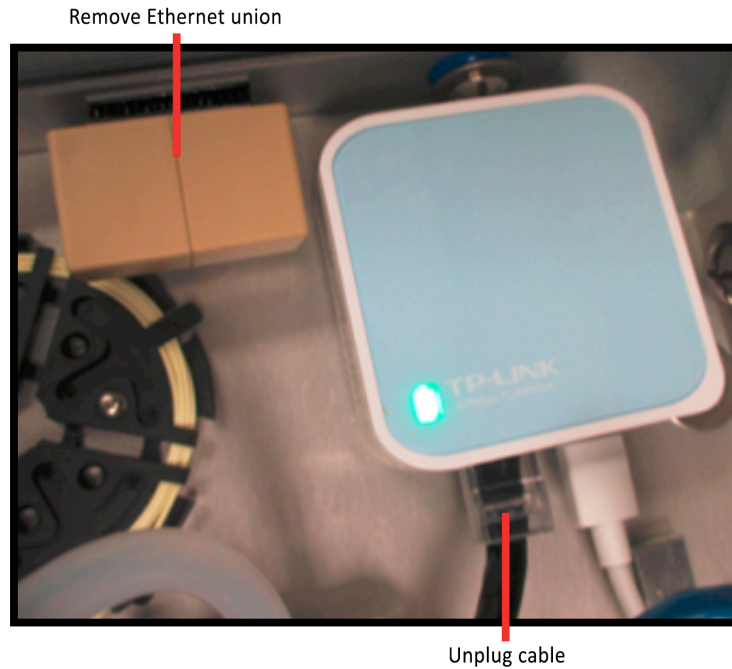

Figure 52: Unplug Cable and Remove Ethernet Union
1. Unplug the black cable from the router LAN/WAN port. (Figure 52)
2. Remove the Ethernet union (next to the router). (Figure 52)